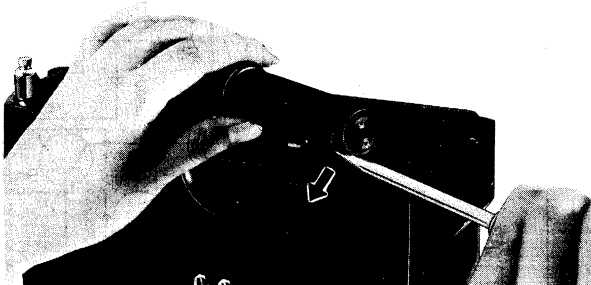

Fig. 6
1. Remove gyro antenna cover in the direction of arrow, as shown in fig. 6.